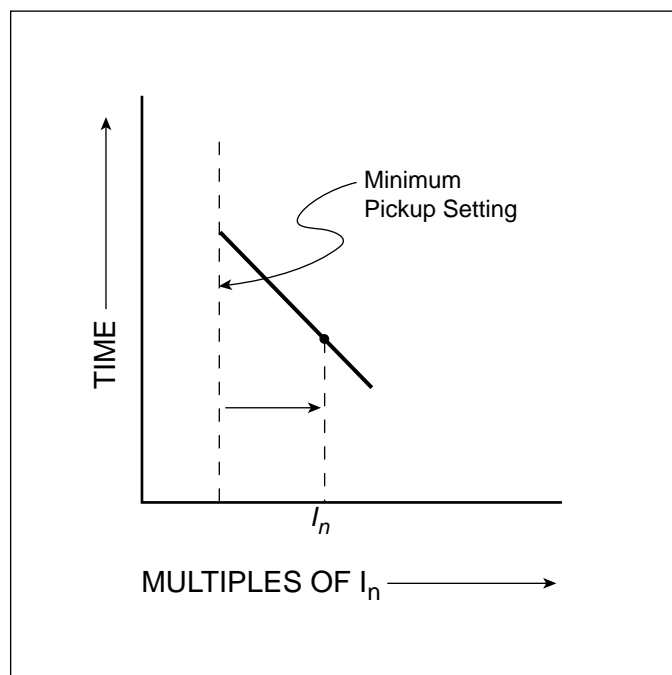

Figure 3-4 Typical Inverse Time Overcurrent Pickup Horizontal Movement
**a) Adjustability:** The adjustability of the relay permits movement of its characteristic curve or parts of the curve. This movement can be done in both a horizontal and vertical direction on the time current grid. The actual shape of the curve can be changed along with the curve movement. This adjustability permits distinct curves to be established that will better match the electrical protection to the application need (Figures 3-4 through 3-9). Notice that there is no horizontal movement of the ANSI and IEC curve shapes. Only the point at which the relay starts to time out moves along the curve shape.
The pickup setting establishes the current level pickup at which the relay's inverse time overcurrent tripping function begins timing. If, after a predetermined amount of time, the current condition that started the timing process still exists, the relay's trip relay is energized. Pickup settings can be adjusted from 0.20 to 2.20 times  $I_n$ . Refer to Tables 2.2 and 2.3 for a complete set of available settings. Figure 3-4 graphically illustrates how the Inverse Time Overcurrent Pickup portion of the overall curve can be moved horizontally on the time current grid by means of the pick-up settings. The Inverse Time Overcurrent Pickup is represented by the dotted lines, while the rest of the curve is represented by a solid line.